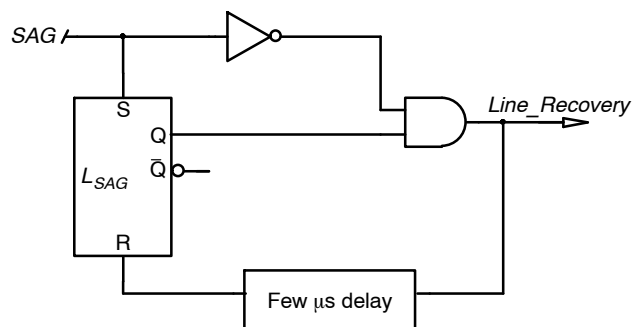

Figure 20. “Line_Recovery” Signal
- When the soft-stop sequence ends, the PFC stops operating until the T_{BUVD} delay has elapsed (515 ms typically). However, if the BUVD protection trips during a line sag condition, the T_{BUVD} delay is bypassed and operation immediately resumes when the line recovers. The wakeup information is provided by signal “*Line_Recovery*” generated by the line-sag block (see Figure 20). This enables a rapid operation recovery when the line fault is over.
When a line-sag condition is detected, the NCP1618 starts a soft-stop sequence to gradually discharge $V_{CONTROL}$ down-to-zero and hence, to smoothly stop operation. It also disables the CCM mode to reduce more rapidly the power delivery during the line-sag period. When the line recovers, it is required to restart the operation as soon as possible and in a clean manner. Signal “Line_Recovery” of Figure 20 provides the wakeup information.
The controller is enabled once V_{HV} is above the upper brownout threshold, $V_{BO(start)}$, and V_{CC} reaches $V_{CC(on)}$. Figure 20 shows typical power-up waveforms. The brownout timer ($t_{BO(blank)}$) is enabled once V_{HV} drops below the lower brownout threshold, $V_{BO(stop)}$ and a brown-out fault is detected if V_{HV} doesn't exceed $V_{BO(stop)}$